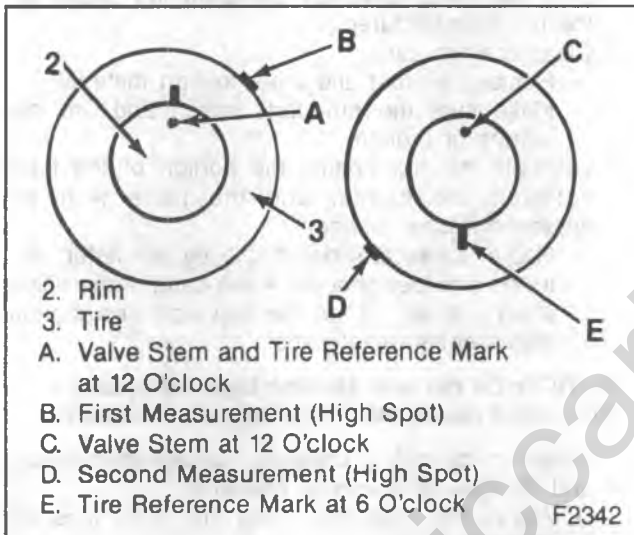

Figure 6—Tire to Wheel Vectoring—Excessive Runout
7. If the clock position of the high spot is 6 hours from the original high spot, the tire is the major contributor to the runout problem (figure 6).